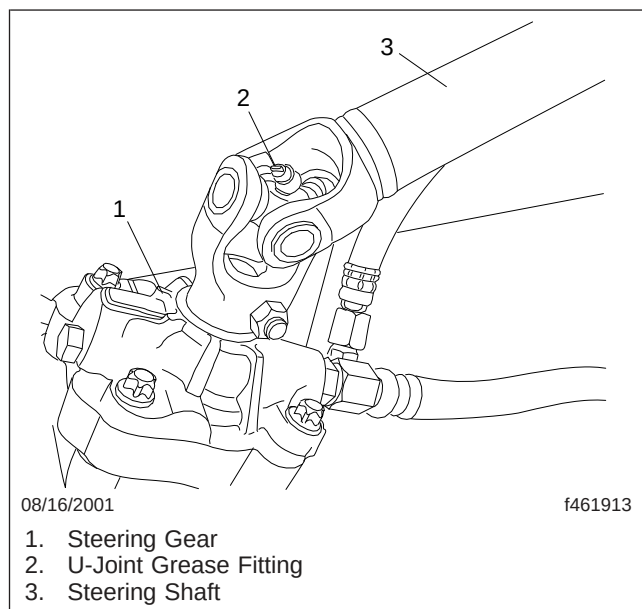

Fig. 5, Steering Shaft, Under-Hood
3. Using a pressure gun, apply clean grease at the grease fitting until old grease is forced out of the seals. Use multipurpose chassis grease NLGI Grade 2 (8% 12-hydroxy lithium stearate grease) or NLGI Grade 1 (6% 12-hydroxy lithium stearate grease); Grade 2 is preferred. See Fig. 5.